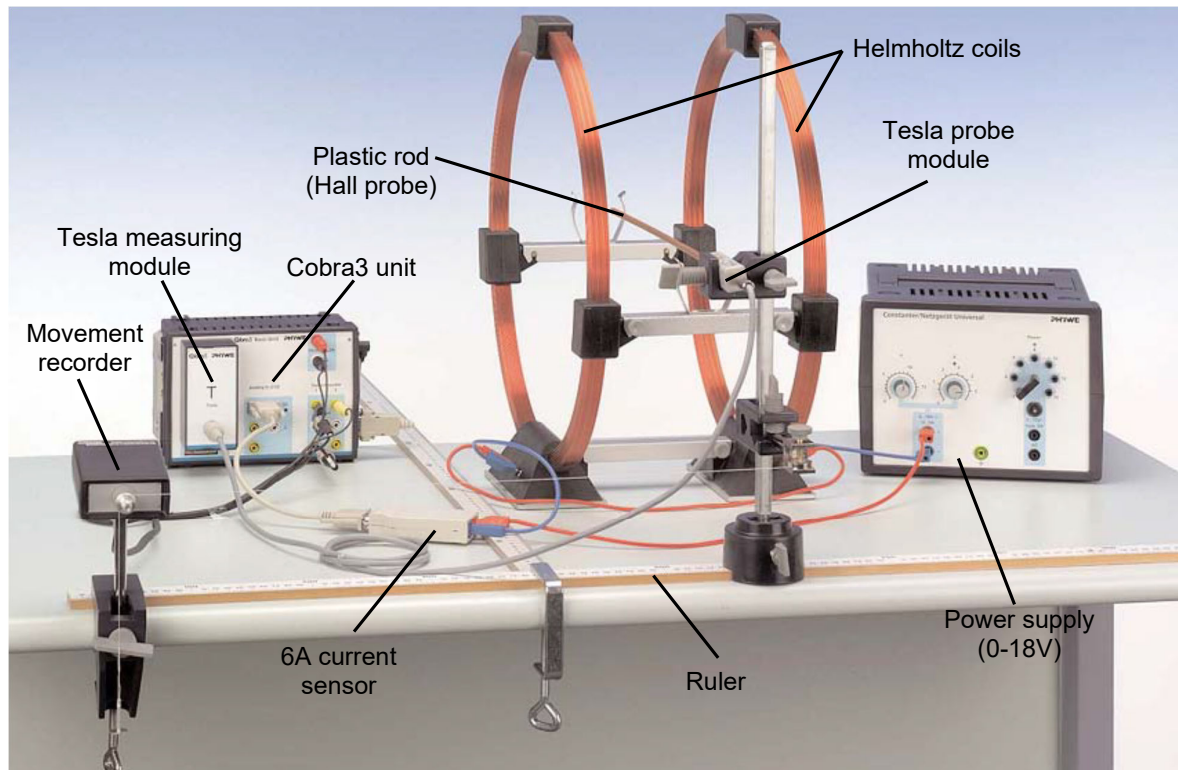

Figure 2: Experiment for magnetic field of paired coils in Helmholtz arrangement
- Referring to Figure 2, connect the Tesla measuring module to the **Module** port of the Cobra3 unit and the Tesla probe module to the Tesla measuring module.